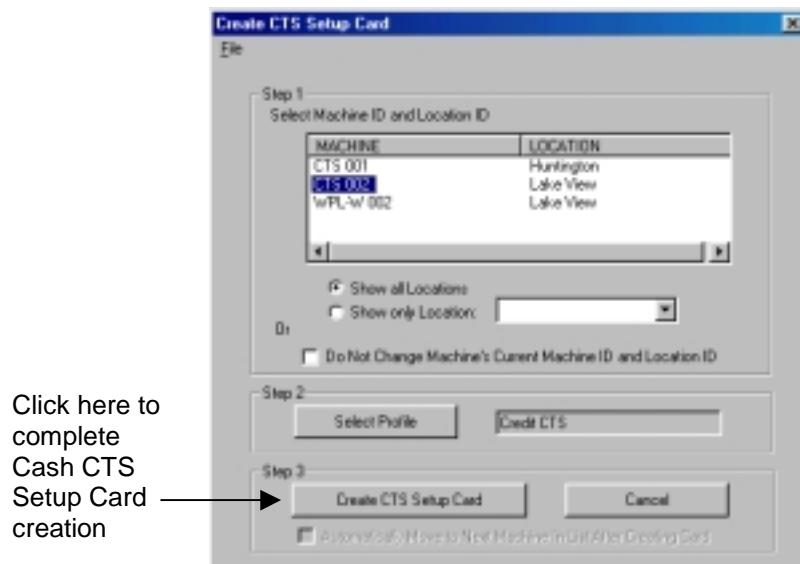

Figure 9.14 Creating the Cash CTS Setup Card
7. Insert a management smart card into the PC reader (Section 2.4.2), and click the Create Cash CTS Setup Card button (Figure 9.14).